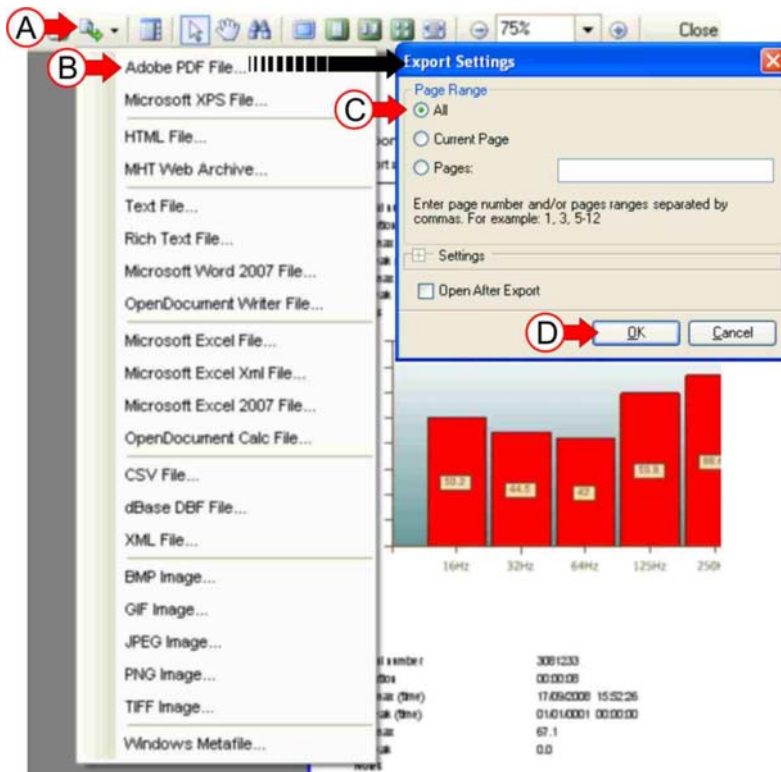

Figure 52 Exporting Reports
D. EXPORTING REPORTS (refer to Figure 52)